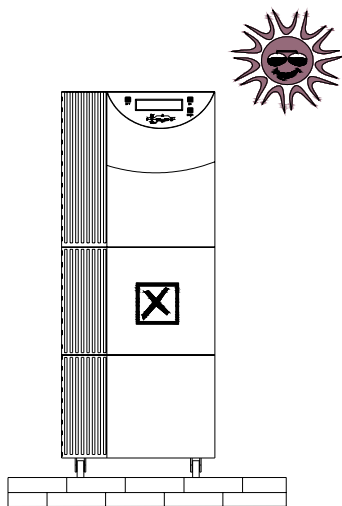

Figure 6
3. Do not install UPS under sunlight, drain and damp place. (Figure 6, 7)